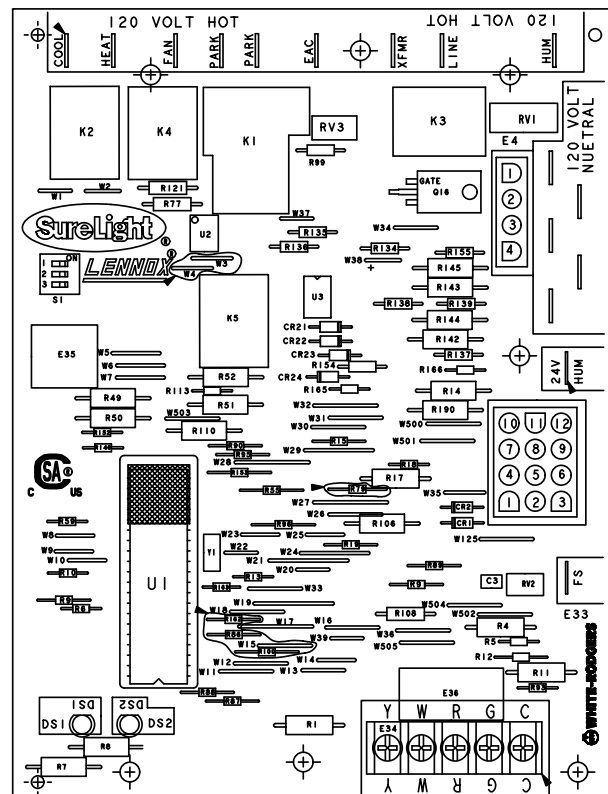
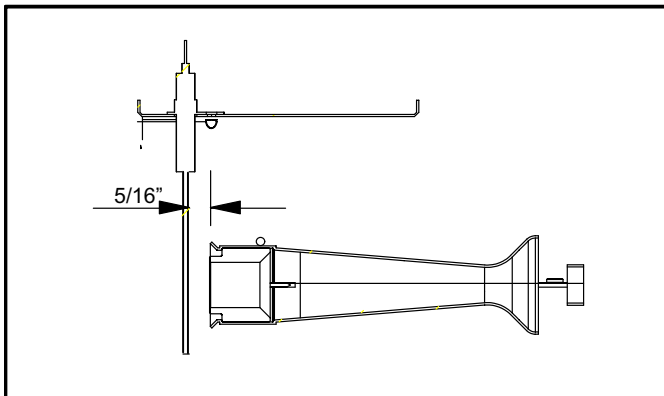
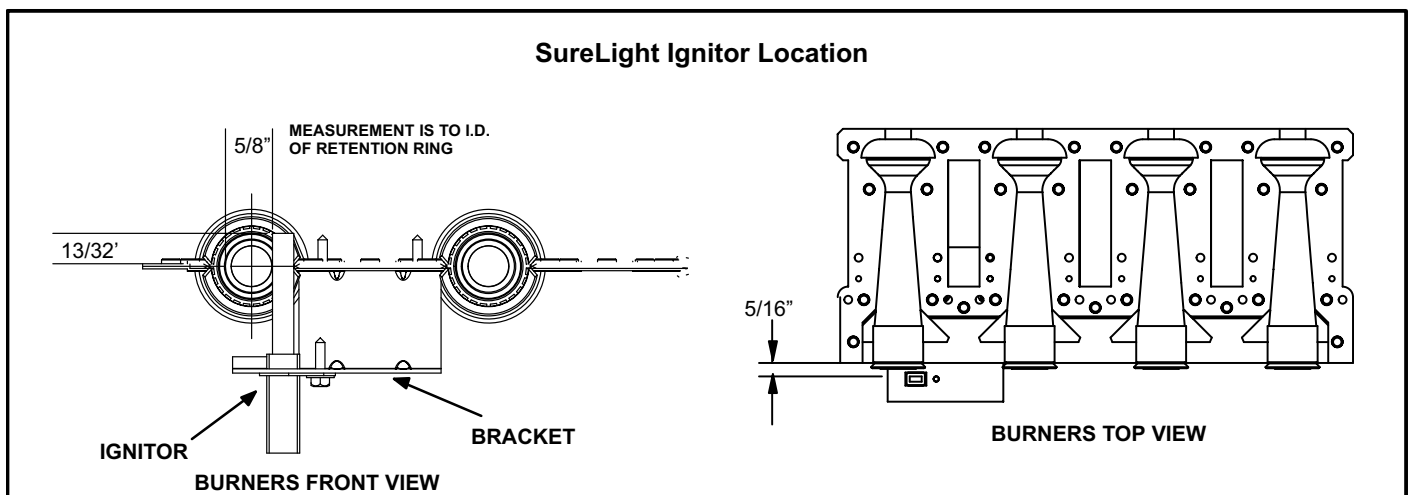

FIGURE 8
FIGURE 10
FIGURE 12
The Lennox SureLight ignition system consists of ignition control (figure 8), sensor (figure 10) and ignitor (figure 12). The ignition control and ignitor work in combination to ensure furnace ignition and ignitor durability. The ignition control, controls all major furnace operations. The ignition control also features two LED lights (DS1 red and DS2 green) for troubleshooting and two 120 volt accessory terminals each rated at (1) one amp. A 24 volt accessory terminal rated at 0.5 amps is also provided. Table 4 shows 24 volt and 120 volt control terminal designations. Tables 5 and 6 show jack plug terminal designations. See table 8 for troubleshooting diagnostic codes. Units equipped with the SureLight system can be used with either electronic or electro-mechanical thermostats without modification. The SureLight ignitor is made of durable silicon-nitride. Ignitor longevity is also enhanced by voltage ramping by the ignition control. The ignition control finds the lowest ignitor temperature which will successfully light the burner, thus increasing the life of the ignitor. Each time power is applied to the furnace, the SureLight board performs a selfcheck.
A flame sensor is located on the left side of the burner support. See figure 10. The sensor is mounted on the flame rollout plate and the tip protrudes into the flame envelope of the left-most burner. The sensor can be removed for service without removing any part of the burners. During operation, flame is sensed by current passed through the flame and sensing electrode. The SureLight control allows the gas valve to remain open as long as flame signal is sensed. See table 16 for flame signal.
The SureLight ignitor is made of durable silicon nitride. Ignitor longevity is enhanced by controlling voltage to the ignitor. The board finds the lowest ignitor temperature which will successfully light the burner, thus increasing the life of the ignitor. Due to this feature of the board, voltage cannot be measured so ignitor must be ohmed. Ohm value should be 10.9 to 19.7. See figure 12 for ignitor location.